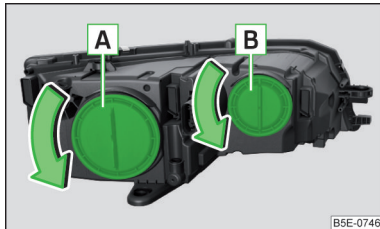

Fig. 355
Arrangement for replacing bulbs » Fig. 355
- › Turn the protective cap **A** » Fig. 355 on page 302 in direction of the arrow.
- › Insert the protective cap **A** » Fig. 355 on page 302 and turn it opposite to the direction of the arrow.
- › Turn the protective cap **B** » Fig. 355 on page 302 in direction of the arrow.
- › Insert the protective cap **B** » Fig. 355 on page 302 and turn it opposite to the direction of the arrow.